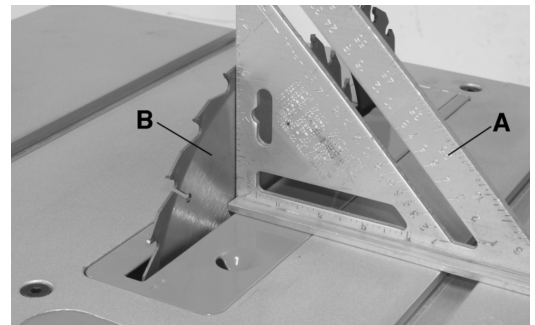

Fig. 19
1. Place a combination square (A, Fig.19) on the table and up against the flat portion of the blade (B, Fig.19).